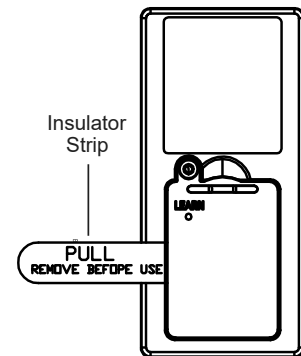

Fig. 20
Step 1. To activate the transmitter, carefully pull the insulator strips out of the transmitter to activate the pre-installed CR2032 3V button/coin cell battery. Discard insulator strips. (Fig. 20)